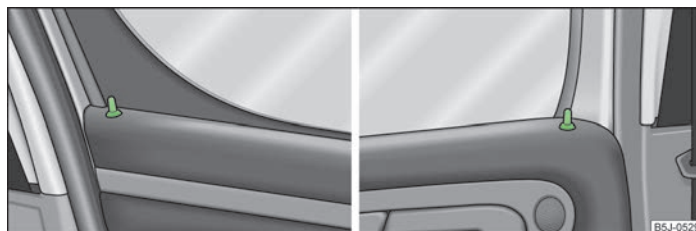

Fig. 11 Securing knob in the front door/rear door
When you unlock/lock the door, the respective securing knob » Fig. 11 will move upwards or downwards.
- Push the securing knob down » Fig. 11.